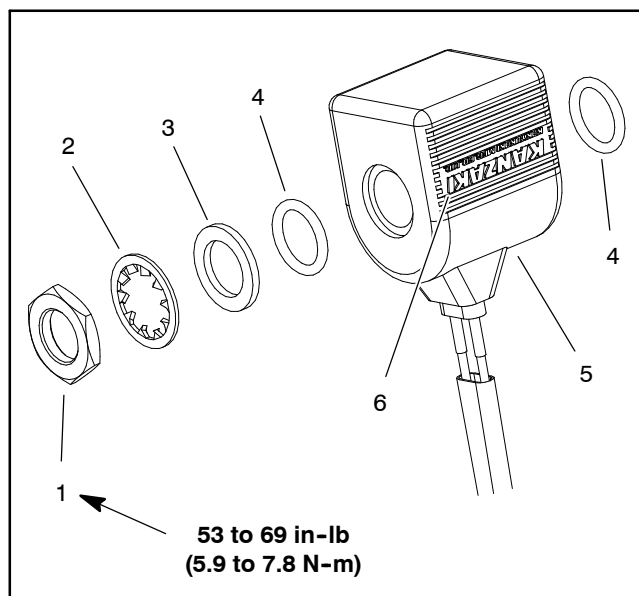

Figure 118
52. Place O-ring, solenoid coil, O-ring, washer, lock washer and nut onto solenoid valve stem. Coil should be installed so the "KANZAKI" molded into the coil has the "I" nearest the nut location (Fig. 118). Torque nut from **53 to 69 in-lb (5.9 to 7.8 N-m)**.